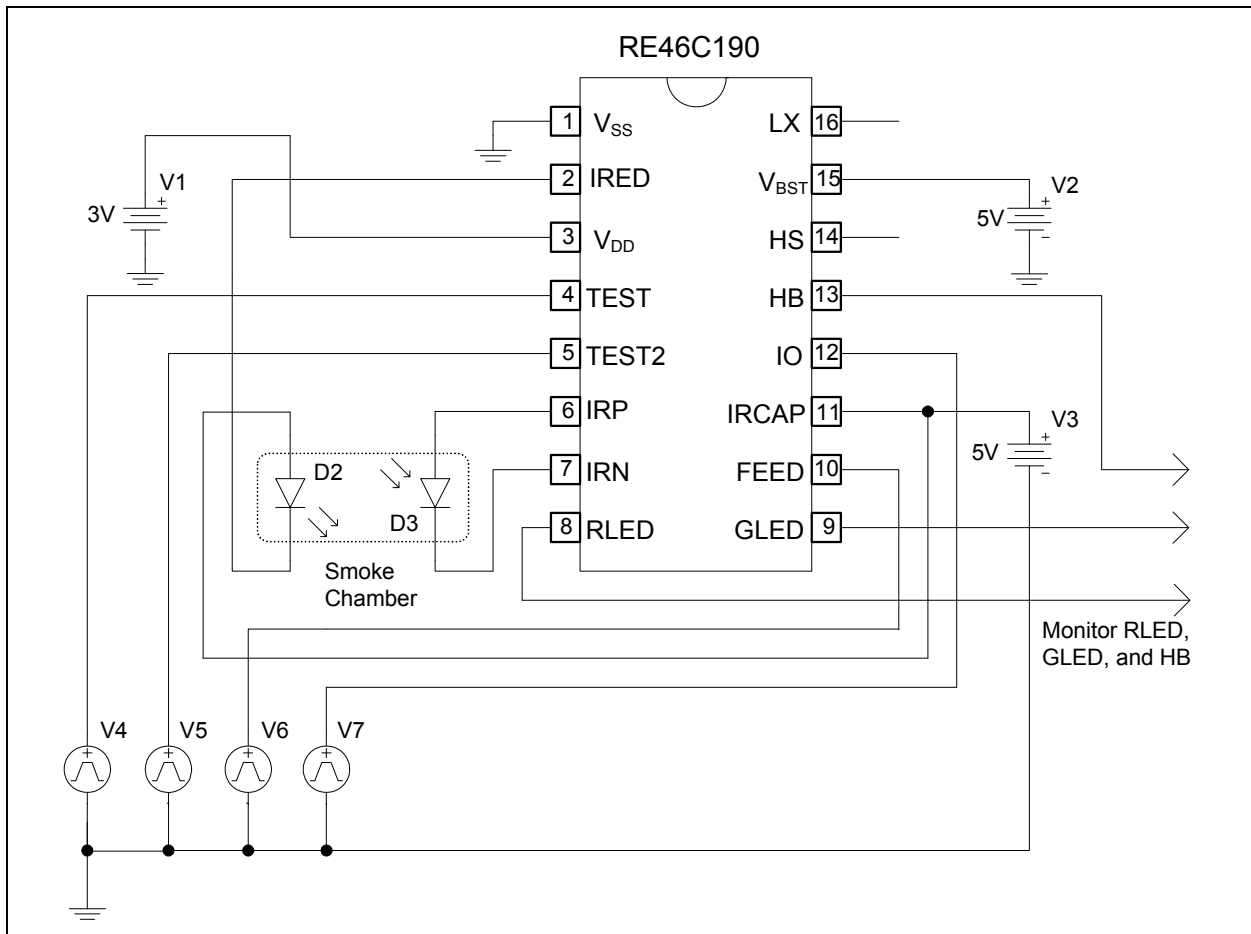
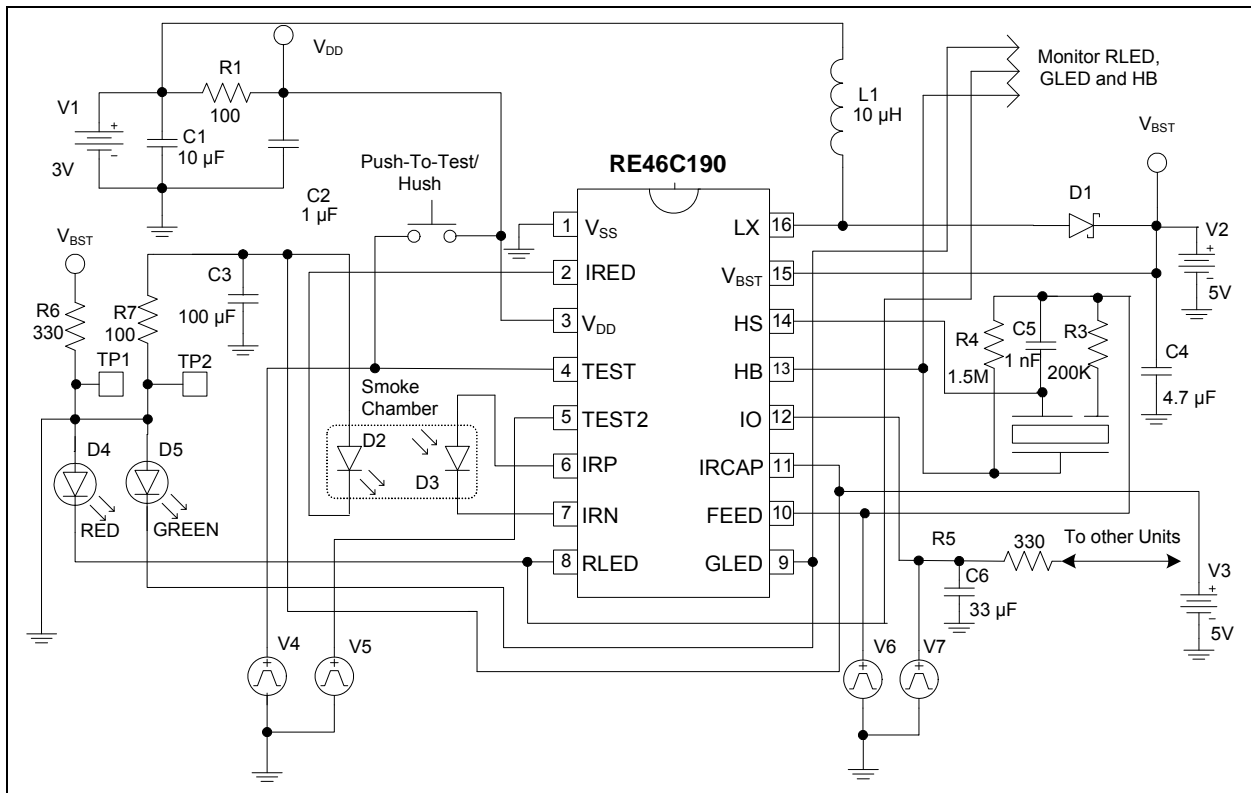

FIGURE 4-1: Nominal Application Circuit for Programming.
FIGURE 4-3: Circuit for Programming in the Typical Application.
1. Power up with bias conditions as shown in Figure 4-1. At power-up
As an alternative to Figure 4-1, Figure 4-3 can be used to program while in the application circuit. Note that in addition to the five programming supplies, connections to V_{SS} are needed at TP1 and TP2.
1. Power up with the bias conditions shown in Figure 4-1.